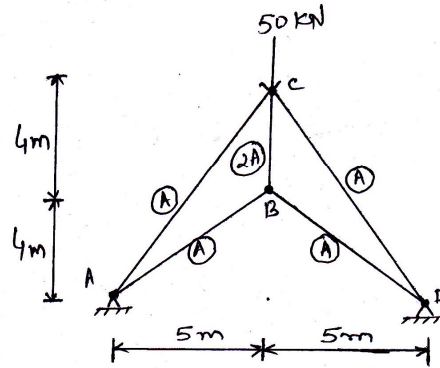

Fig. 2
- Q.3** (a) For the truss shown in Figure 2, obtain rearranged joint stiffness matrix taking advantage of symmetry. A is the cross-sectional area of member. **07**
- (b) Determine free joint displacements and support reactions for the truss shown in Figure 2 using stiffness member approach. **07**